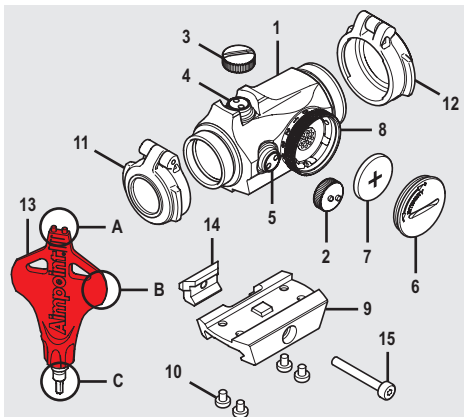

Fig. 1
- a. Remove Battery cap (6) using the Tool (13B).
- b. Insert Battery (7) with the positive end (+) toward Battery cap (6) as can be seen in Fig 1.
- c. Turn to the Rotary switch (8) to intensity setting 12 (max.) and tighten the Battery cap (6) with the Tool (13B). When resistance is encountered, proceed to tighten until the Battery cap (6) comes to a **stop**.
- d. Verify that the red dot is present and that there is **zero** gap between the Battery cap (6) and the battery compartment.